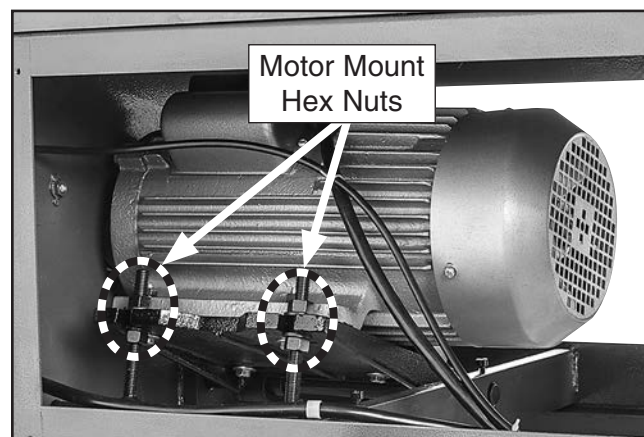

Figure 59. Front cabinet cover removed to access motor.
3. Remove front cabinet cover to access motor, as shown in **Figure 59**.
5. To adjust V-belt tension, loosen both top motor mount hex nuts (see **Figure 59** on **Page 40**), then adjust bottom hex nuts to raise or lower motor.